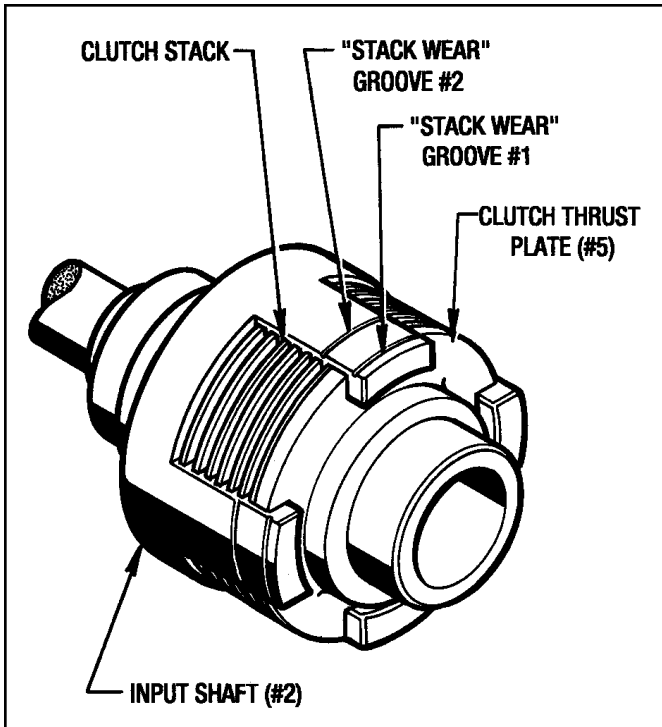

Figure 6.1 - "Stack Wear" Grooves
Two (2) "Stack Wear" Grooves have been machined in the Input Shaft (#2) Lugs to facilitate this visual check. (See Figure 6.1)